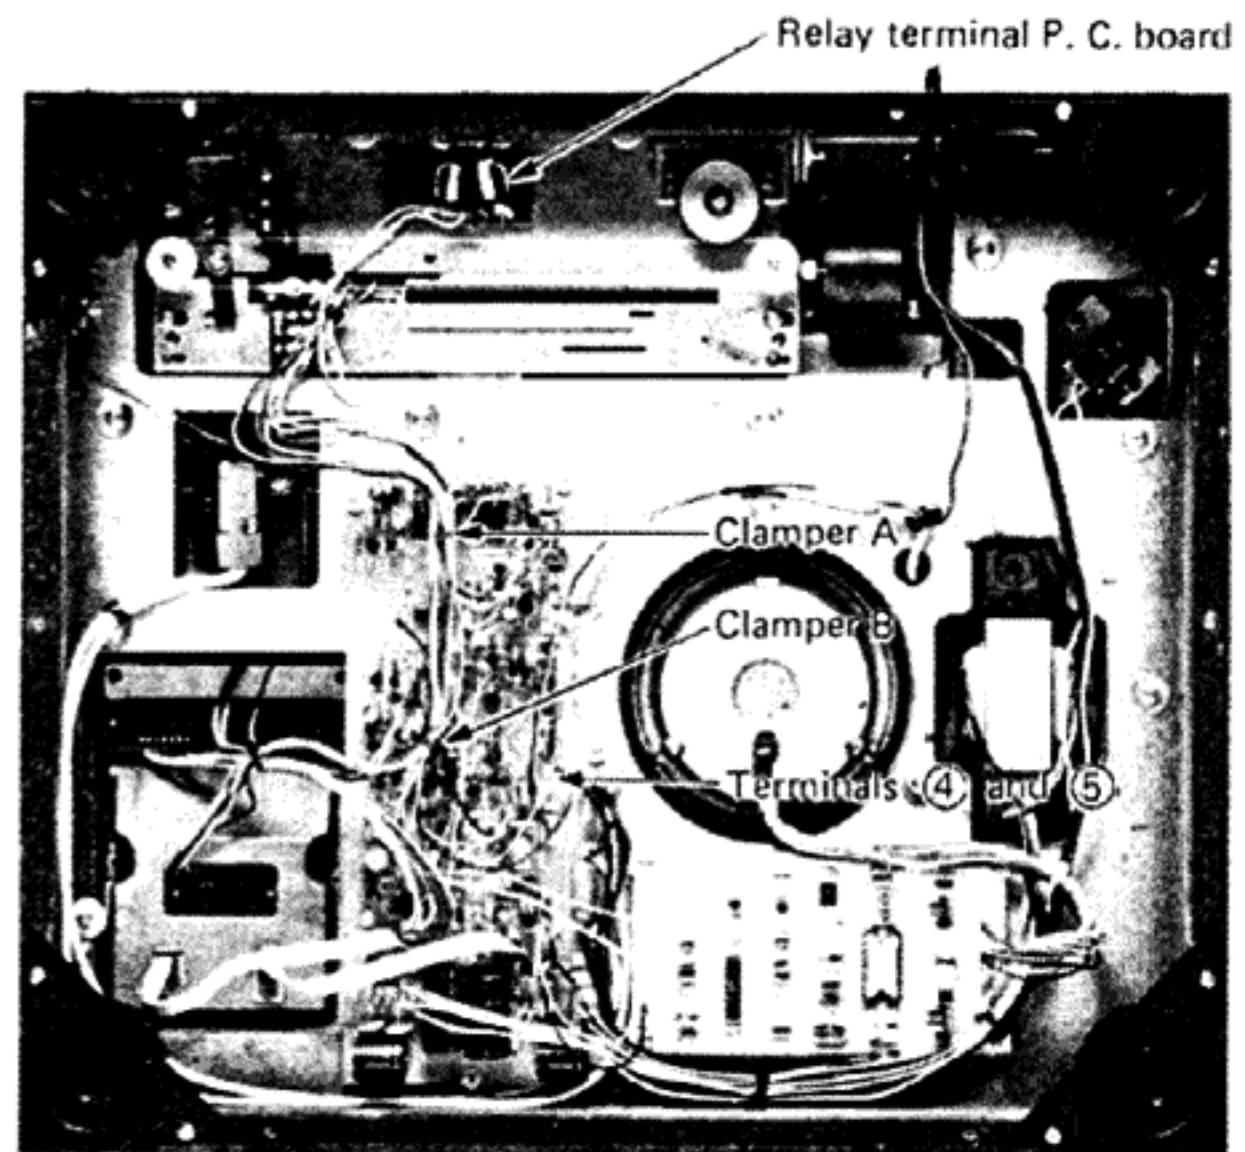

Fig. 1
- 2) Disconnect clamps A and B shown in Fig. 1 and remove connectors CONN-5 and CONN-6.
- 3) Using a soldering iron, disconnect the following wires from the tonearm base: lead wires (red and black) leading to terminals ④ and ⑤ of the logic P. C. board, and the shield wires (red and white) and the black wire leading to the relay terminal P. C. board.